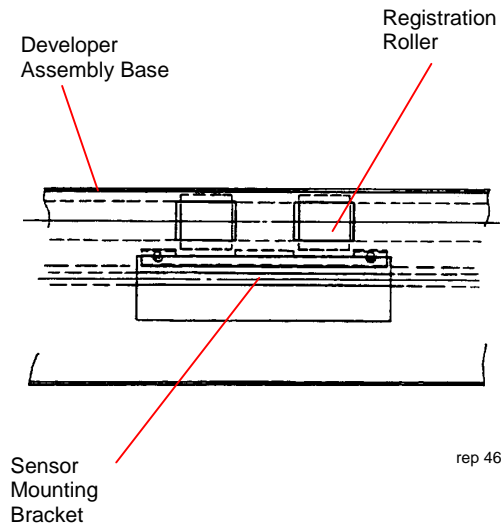

Figure 1. Removing the Cover
4. (Figure 1): Working at the Fuser side of the printer, remove the two screws and remove Cover 3, located behind the Upper Drawer.